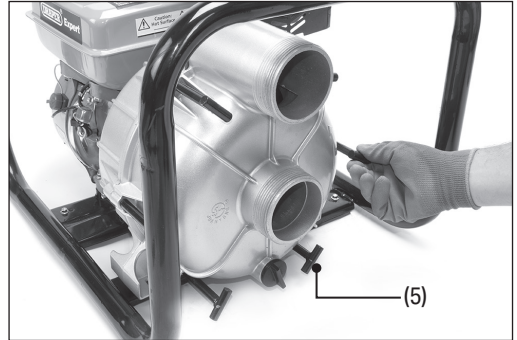

Fig. 14
7. Close the choke so that the engine runs smoothly (Fig. 14), then increase the throttle speed to begin pumping.
1. To open the pump, twist the six "T" handles anticlockwise and pull the cover away from the pump (Fig. 14).
1. Ensure that the fuel lever (18), throttle lever (20), choke lever (19) and engine switch (16) are in their OFF or lowest positions and allow the engine to cool for at least 30 minutes (see Fig. 14).
2. Unscrew the fuel tank cap (1) and remove the fuel filter.